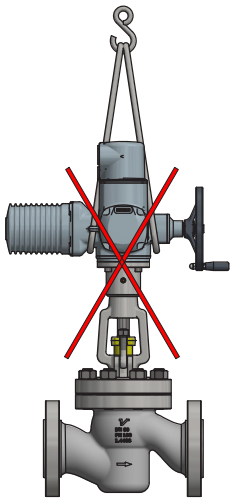
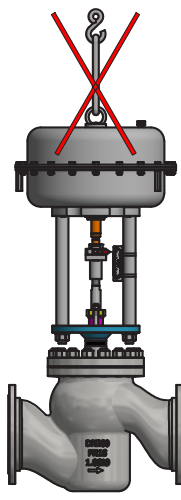

Figure C.23
Figure C.24
- Do not use the lifting points located on the actuator (Figure C.23 and Figure C.24).